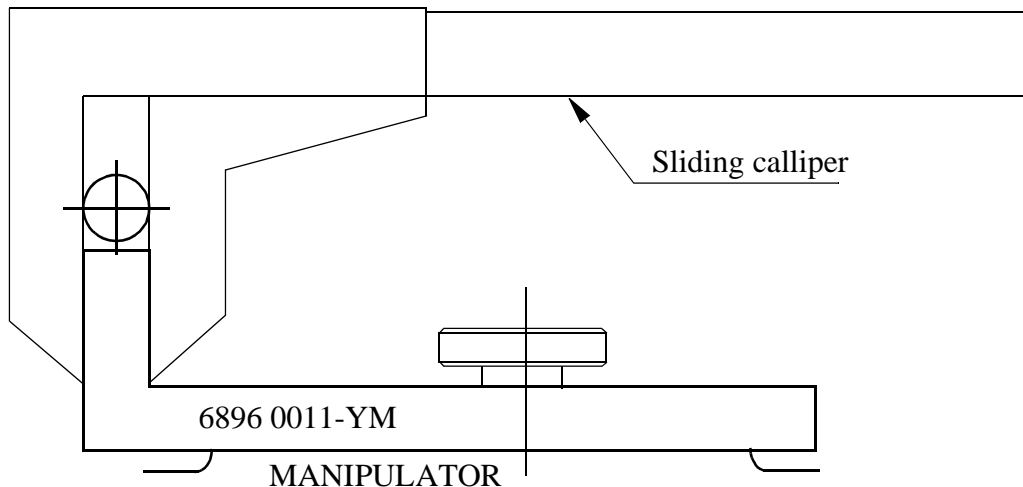

Figure 10 Aligning the pin and tool with a sliding calliper for axis 1.
- Align the pin and tool with a sliding calliper. See Figure 10.